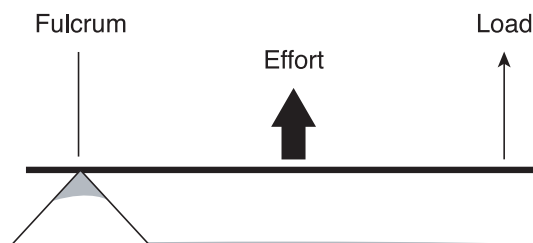

Fig. 5
- 3rd Class levers always increase the speed the load moves because the effort is always positioned closer to the fulcrum than the load. (See Fig. 5). Applying the effort close to the fulcrum requires a large input force but the effort arm only moves through a small distance. The opposite end of the lever (or load arm), however, moves through a greater distance, at a faster speed, but with less force.